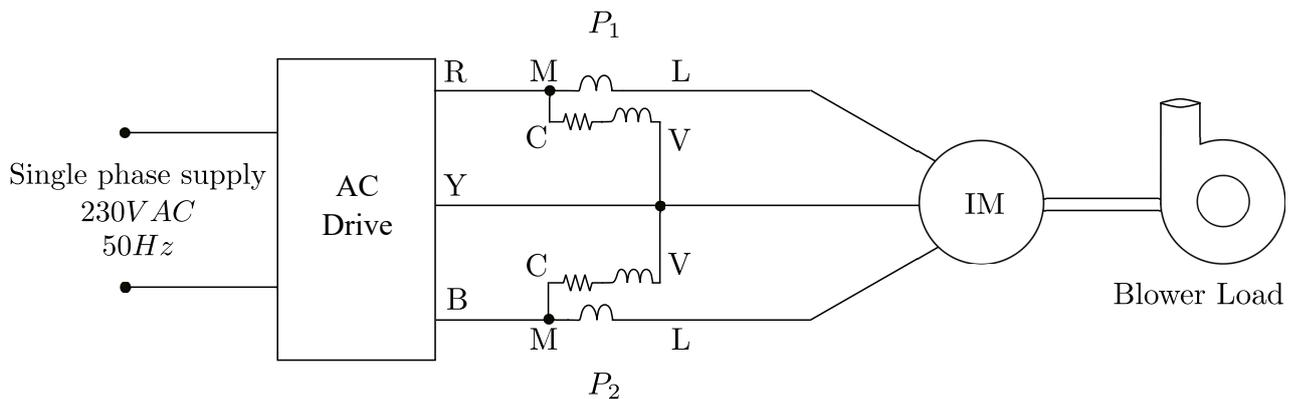

Figure 5: Connection diagram
An induction motor (IM) is coupled with a blower as shown in Figure 5. The IM is fed from an AC drive which provides a variable frequency supply. In this experiment, we vary the frequency of the output of the drive in order to run the blower at various speeds. The watt meter readings  $P_1$  &  $P_2$  are used to calculate the input power. The torque can be calculated as follows
Refer to Figure 5.